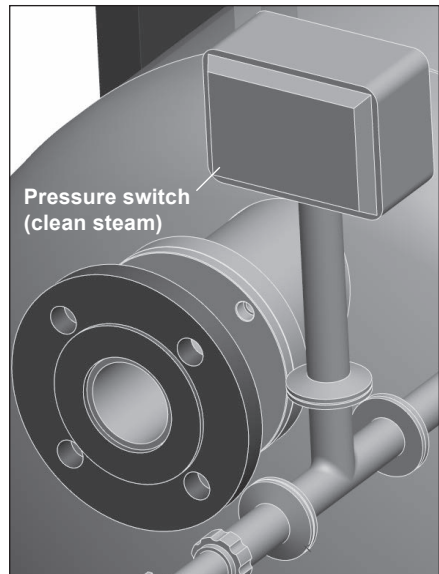

Fig. 13
5.4.3 Pressure safety switch - Figure 13